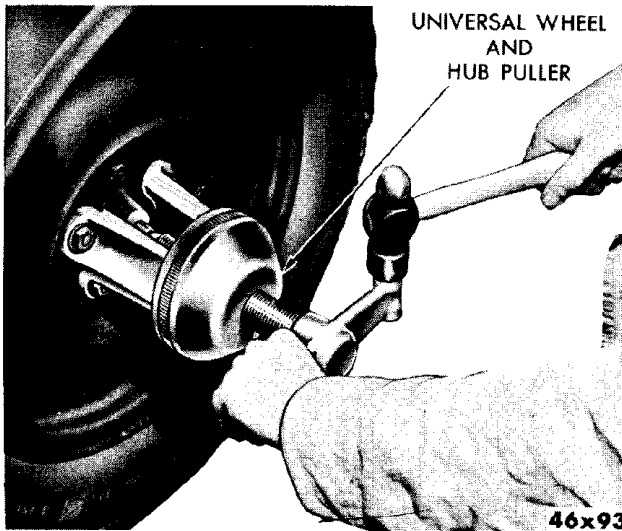

Fig. 3—Removing Rear Hub—Tool C-675
- (1) Remove wheel, hub and drum assembly, as shown in Figure 3.